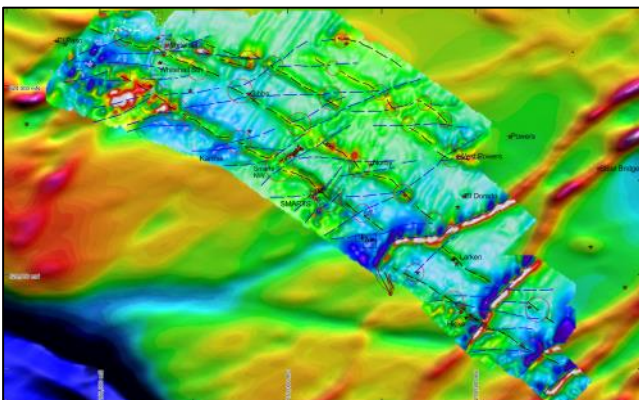

Figure 4: New Detailed Ground Magnetics Plot on Aeromagnetics with Targets
Ground Magnetics together with a limited number of Induced Polarization (IP) sections were surveyed along the Smarts – Hicks Trend (see Figure 4) continued during the quarter. A total of 158 grid lines for 371.9km of Ground Magnetics survey and 9 lines for 10.4km of IP survey were completed. The IP trial produced mixed results, but the Magnetics data has proven extremely effective in delineating structures and will be a fundamental targeting tool used to identify demagnetised zones along the magnetic shear structures to aid in targeting future brownfields drilling (see Figure 4).